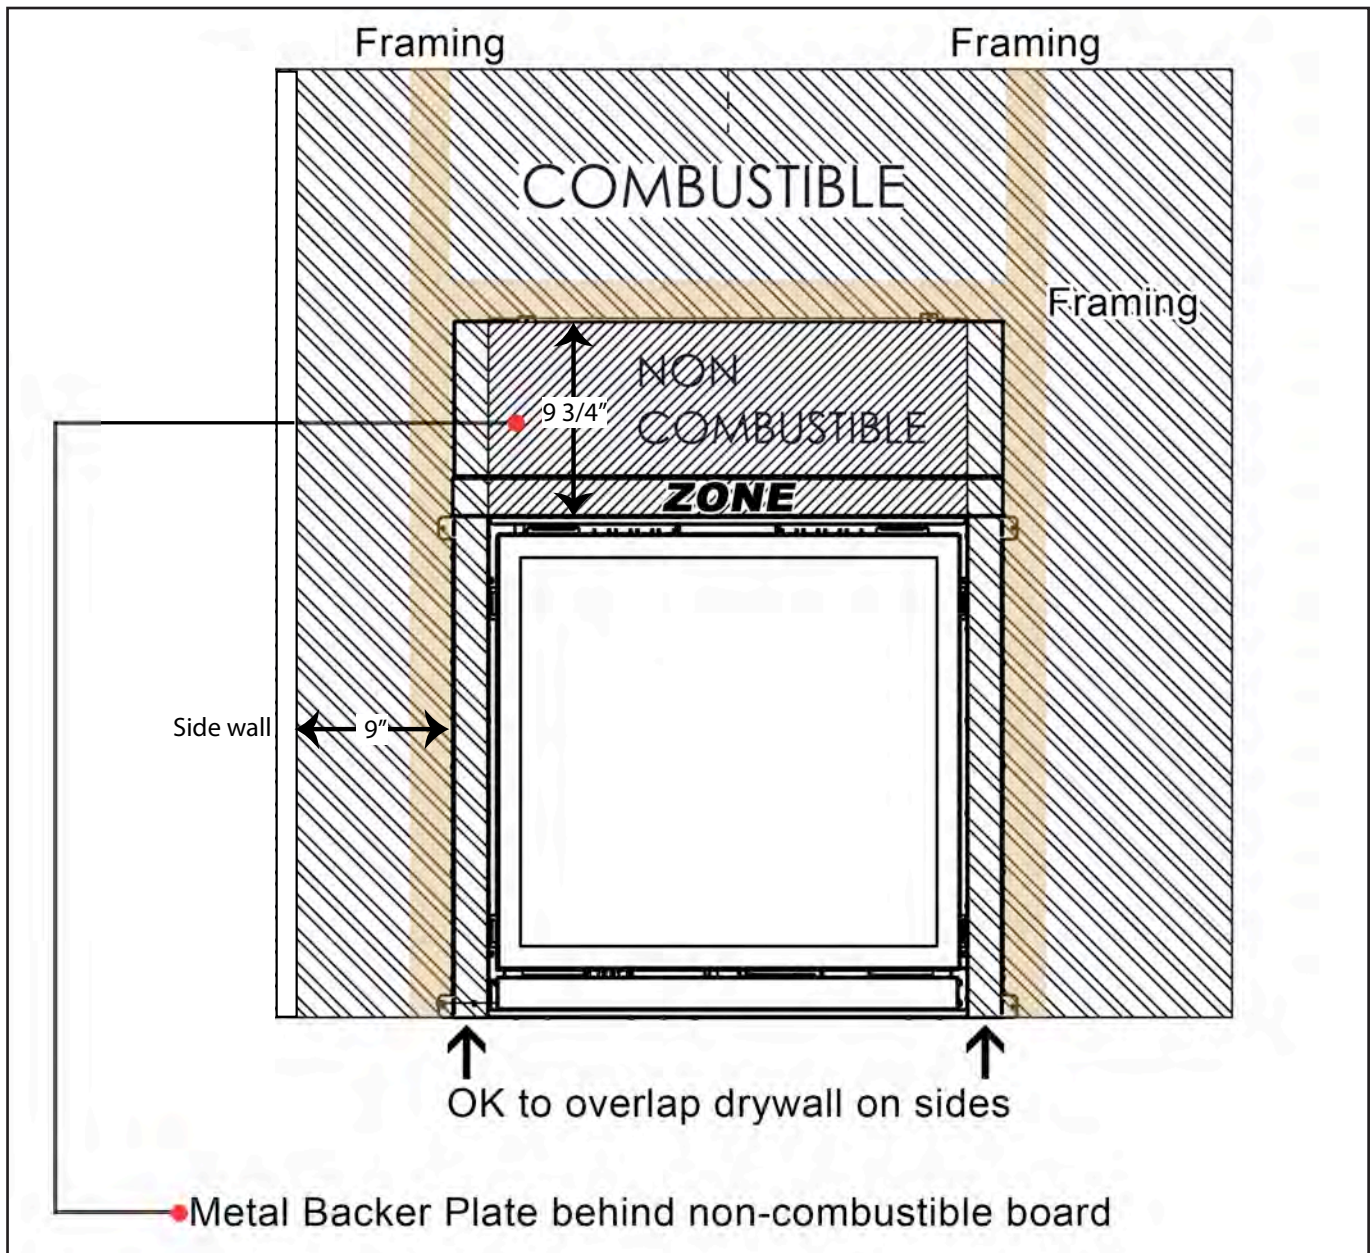

Figure 31: Non-Combustible Material
**MANTLE:** It is not necessary to install a mantle, but if one is desired the guidelines as shown in Figure 31. Side mantle clearance should be no less then the distance from the top of the unit to the bottom on the top portion of the mantle.